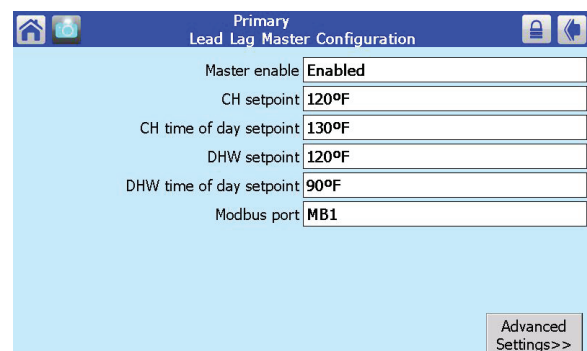

Fig. 62 – Lead/Lag Master Configuration
4. Scroll down through the list until you find the line for LL Master Configuration. See Fig. 62.